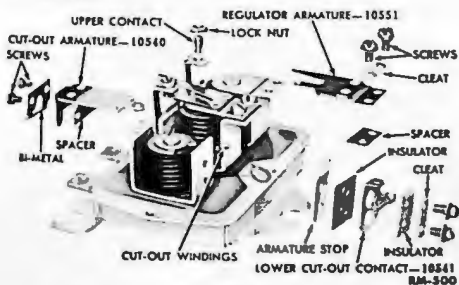

Fig. 10—Generator Regulator, Disassembled.
(1) **DISASSEMBLE.** Remove the cover from the regulator. Remove the two screws securing the regulator armature to the frame (fig. 10). Remove the cleat, regulator armature, and spacer. Loosen the lock nut and remove the contact screw.
a. **Disassemble.** Remove the two screws securing the bimetal, cut-out armature (10540) and spacer to the frame (fig. 10). Remove the cut-out armature, bimetal, and spacer from the frame. Soften the solder securing both cut-out winding wires to the lower contact (10541) with a soldering iron. Remove the two screws securing the lower contact to the frame. Remove the cleat, insulators, lower contact, and armature stop.
b. **Assemble.** Place the lower contact (10541) with the armature stop, insulators, and cleat in position on the frame in the order shown in fig. 10. Secure the lower contact in place with the two screws. Do not tighten the screws at this time. Solder the cut-out winding wires to the lower contact. Place the armature cut-out (10540) with the spacer under the arma-
ture hinge and the bimetal on top of the hinge in the order shown in fig. 10.